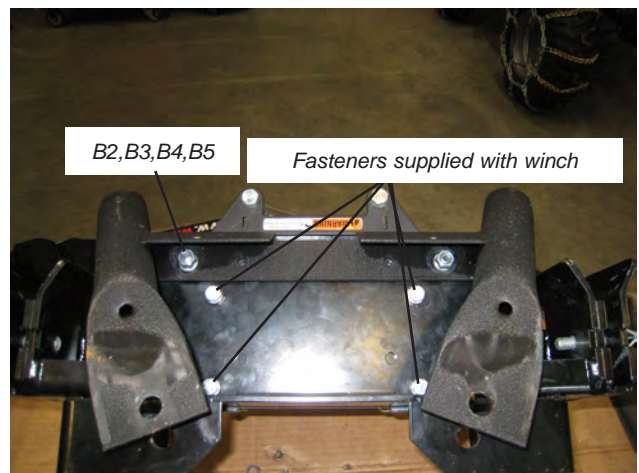

Figure 6 Install Front Fasteners - Bottom view of plow mount assembled to bumper
6. Position the plow mount on the bumper. Position the bracket (A2). Install fasteners (B2, B3, B4, B5) in the front bumper locations. See Figure 6.
7. If a winch is being installed, use the front winch mounting holes and install fasteners supplied with the winch kit. See Figure 6.